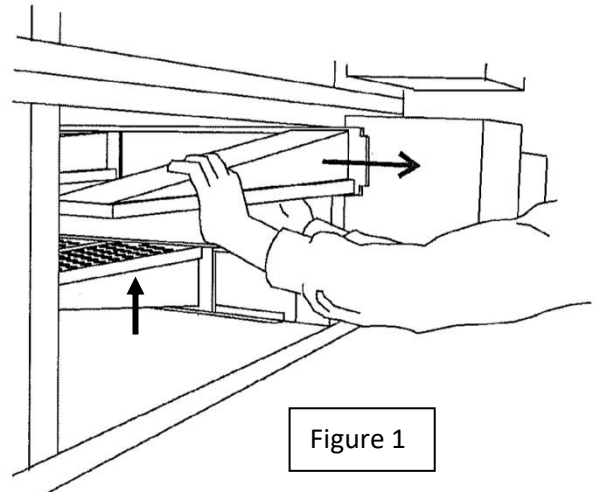

Figure 1
5. Remove air canals as shown figure 1 pull in the direction of arrow.